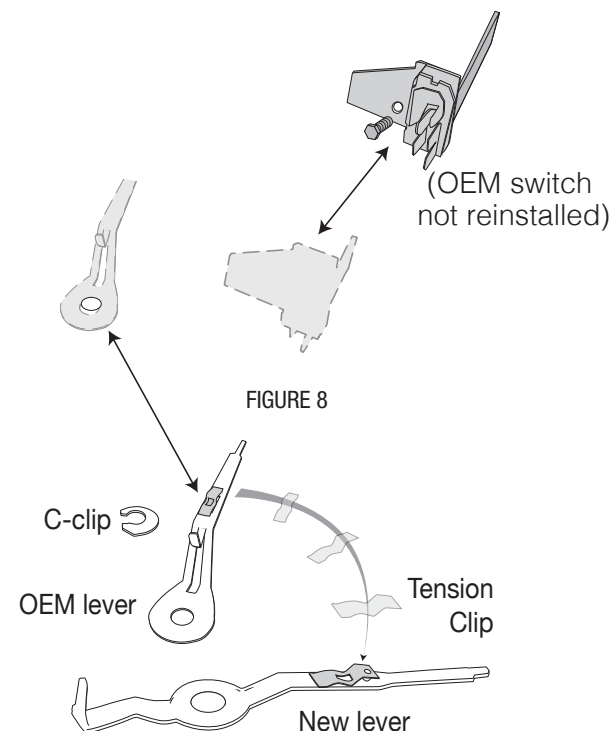

FIGURE 8
STEP 1) Remove the OEM blower switch knob. Retain the screw, you will use it again shortly. Remove the control cables and the original blower switch and set aside (these will not be reused, see figure 8). Remove the OEM control lever, then remove the tension clip and set it aside (control arm will not be used again). Move the tension clip to the new control arm (in the same orientation as the OEM), and put the new arm in place. Re-secure with the OEM c-clip (see figure 8).